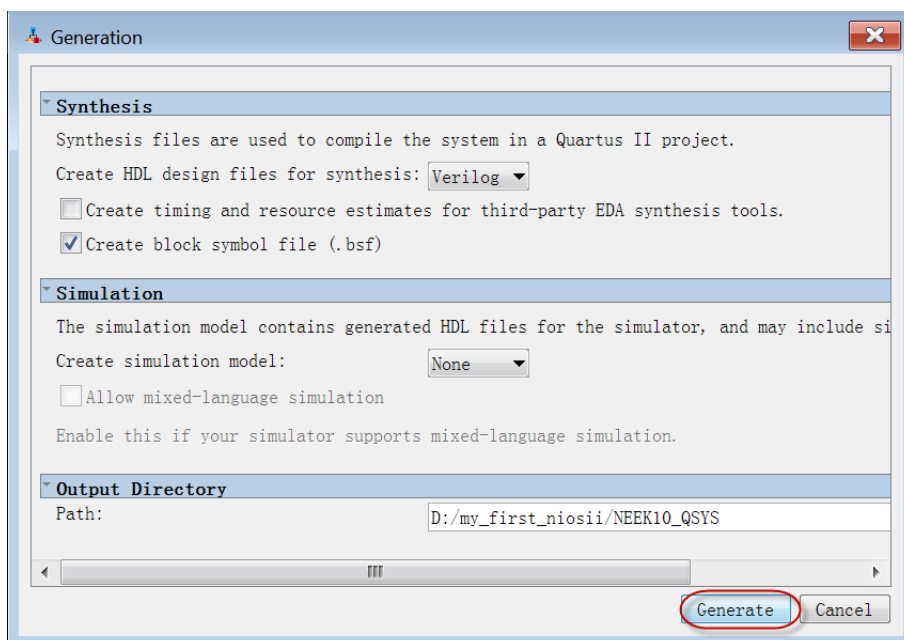

Figure 3-5 Generate HDL files in Qsys
4. Choose **System** -> **Assign Base Addresses** and click **Generate** -> **Generate HDL** to generate the HDL files in Qsys, as shown in **Figure 3-5**.